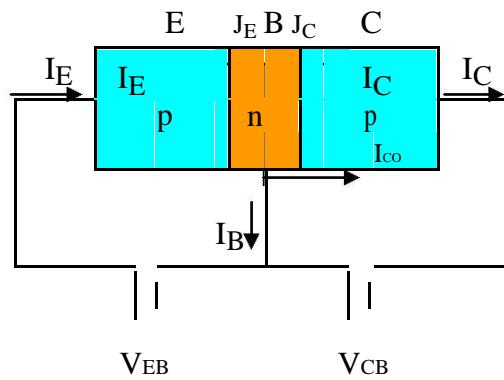

Fig 2.6 Transistor in active region
- Consider a pnp transistor operated in active region as shown in Figure 2.6
- Thus we see that $I_E = I_B + I_C$ ----- (1) (By KVL)